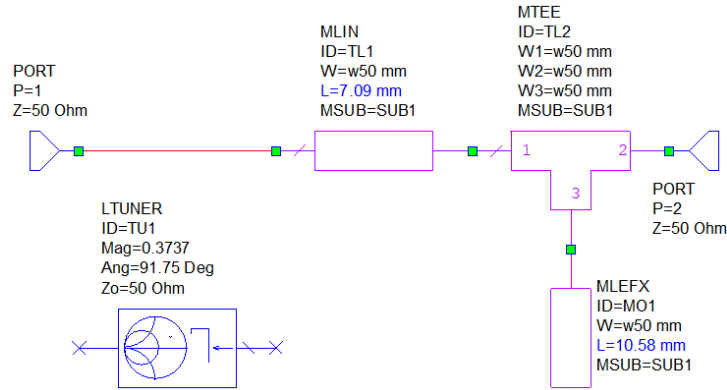

Fig. 8 Schematic of the OMC. The LTUNER utilized had a reflection as  $S_{22}$  as shown in the schematic from Fig. 3.
- In a similar way, it is possible to design the OMC. The resulting circuit corresponding to our example can be seen in Fig. 8.